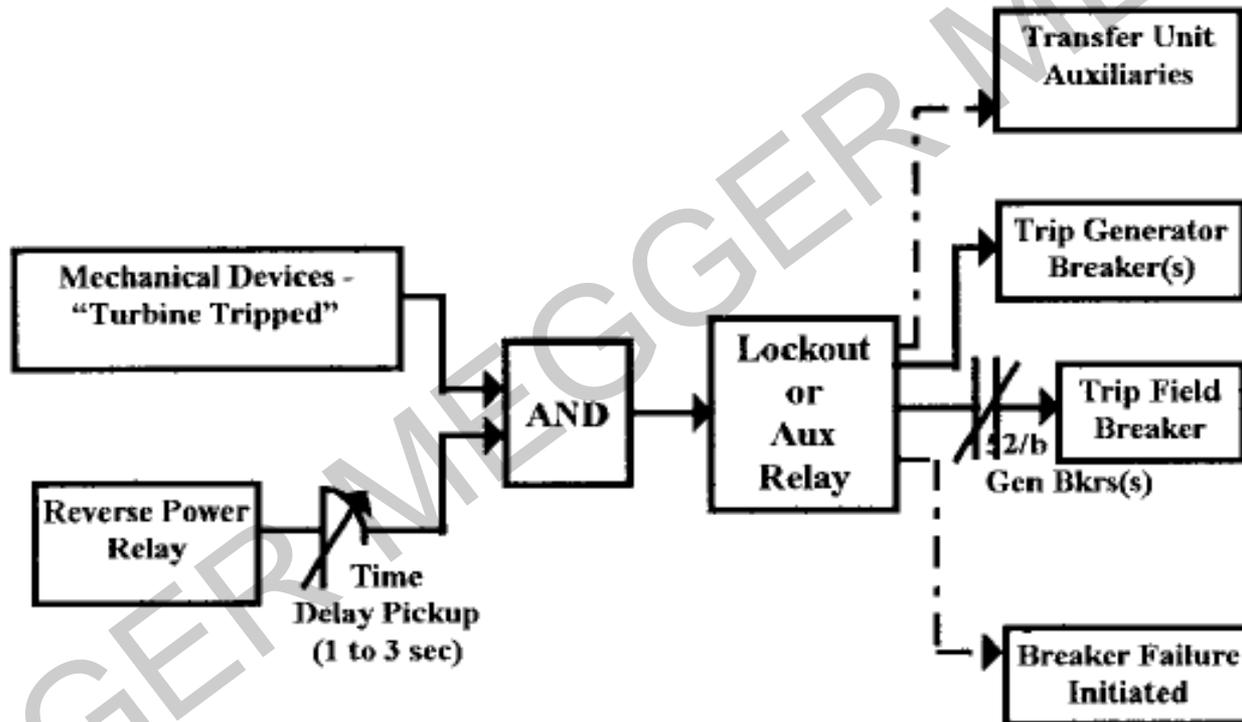

Fig. 2. Sequential tripping control logic.
3. If not present, install sequential trip circuitry and logic in accordance with Figure 2.